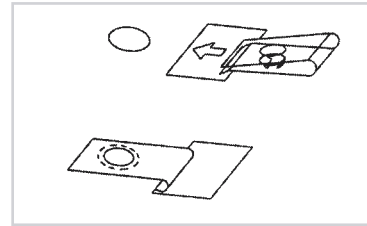

Figure 6a
- Slide "U" type nuts on to the rotor bottom and the inner doors so that the clip hangs on to the sheet metal and the threaded emboss is exposed on the inside of the clearance holes (Figure 6a).